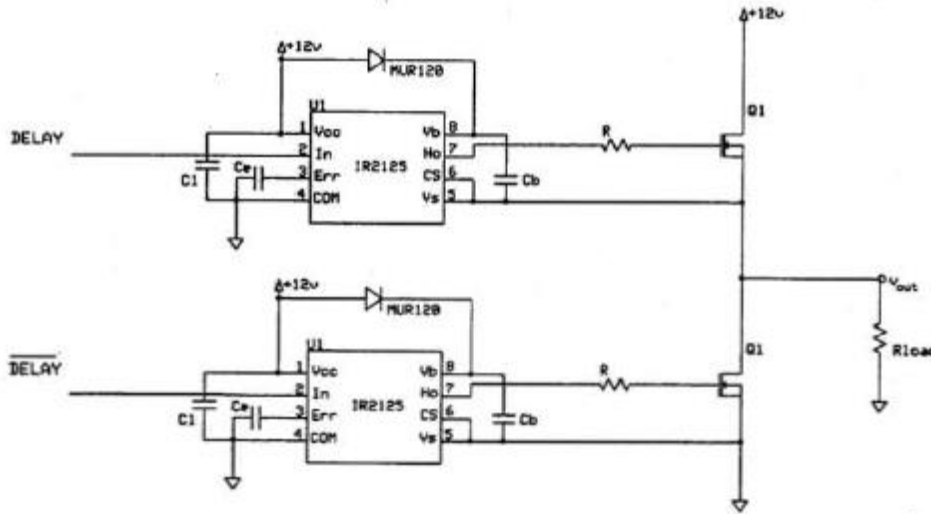

Figure 4: Full Switching Power Amplifier
1. Construct the circuit shown in Figure 4. For  $R_{load}$ , use the power resistor that you were given in your component kit. Connect the DELAY and #DELAY lines from your delay circuit to the appropriate inputs in Figure 4. Setup your function generator to provide the following: